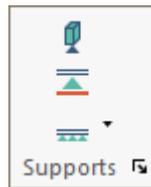

Figure 6.2-15
- *Create supports at far ends of walls and columns.* This feature automatically inserts supports at the far ends of walls and columns using the program's default restraints prior to the analysis. If conditions other than the program's default are selected in the "Criteria" pull-down menu, the program selects the latter. To modify any of the program specified boundary conditions, (i) Model→Support→Create Supports (**Fig. 6.2-15**), (ii) double click on the support you want to view/edit to open its property window, and finally (iii) change the support restraints to the condition of your choice.